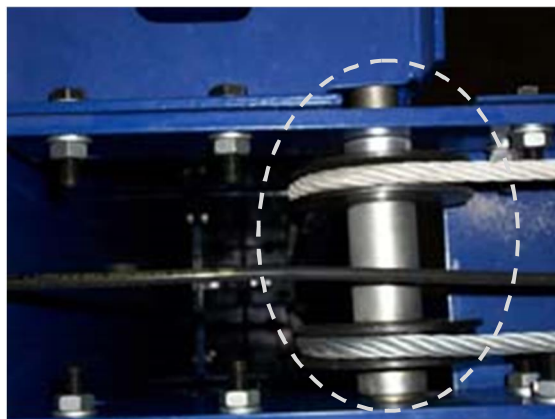

Fig. 3
6. Install Overhead Beam & Limit Switch Bar (Figs. 3, 4 & 5)
- A. Ensure the cable pulleys are assembled onto shafts with spacers prior to attaching overhead beam to top of columns, as shown below in Fig 3.